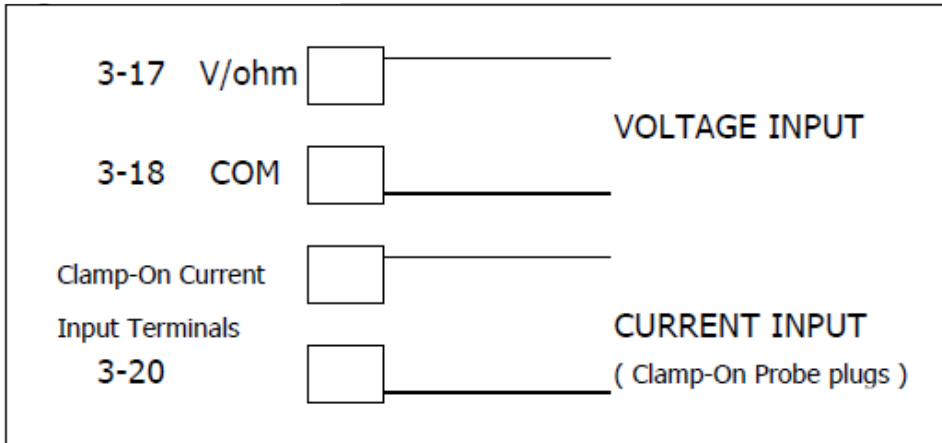

Fig. 4
1. Wire connection as follows, refer (Fig. 4)
"V-Terminal" (3-17, Fig. 4) and "COM Terminal" (3-18, Fig. 4)
The output plug of the inductive current probe (1 AC mV per 1 ACA) connect to the "Clamp-On Current Input Terminals" (3-20, Fig. 4)